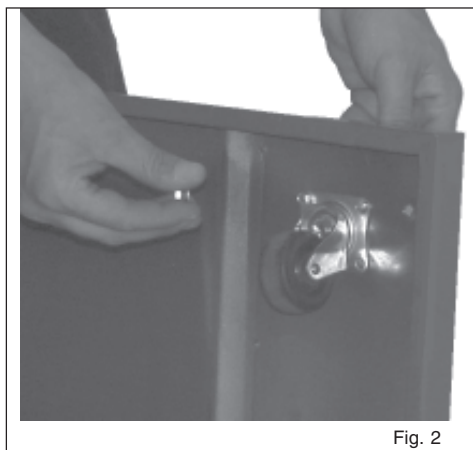

Fig. 2
1. Fit the four wheels in the four corners underneath the rectangular base using the screws and nuts with the relevant washers. For each wheel-supporting corner you should insert over a screw through the washer in the base and then in the support of each wheel. Tighten the nut using a specific wrench and a screwdriver. Repeat the operation for the other wheels. The two directional wheels are to be located on the side of the bags opposite the motor (**Fig. 2**).